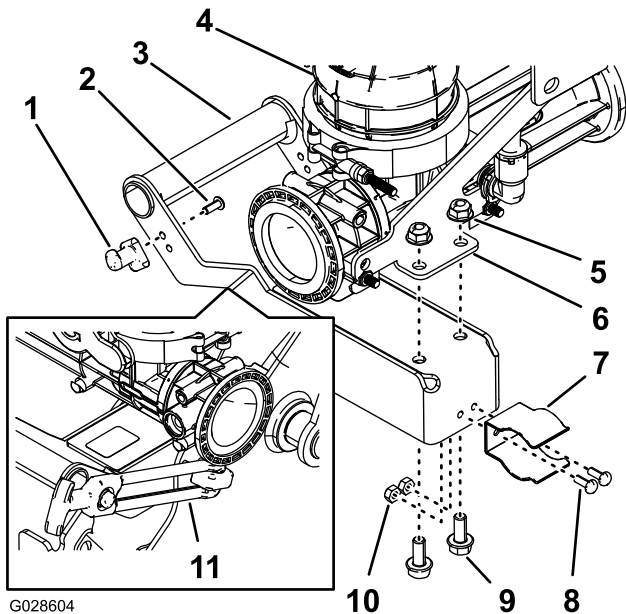

Figure 11
1. Assemble the latch post to the handle of the eductor (Figure 11) using the 2 socket-head screws (#10-24 x 1/2 inch).
2. Assemble the spring clip to the latch handle (Figure 11) with the 2 bolts (#10-24 x 1/2 inch) and 2 locknuts (#10-24).
3. Assemble the handle to the mount plate for the eductor (Figure 11) with 2 flange-head bolts (5/16 x 3/4 inch) and flange locknuts (5/16 inch).